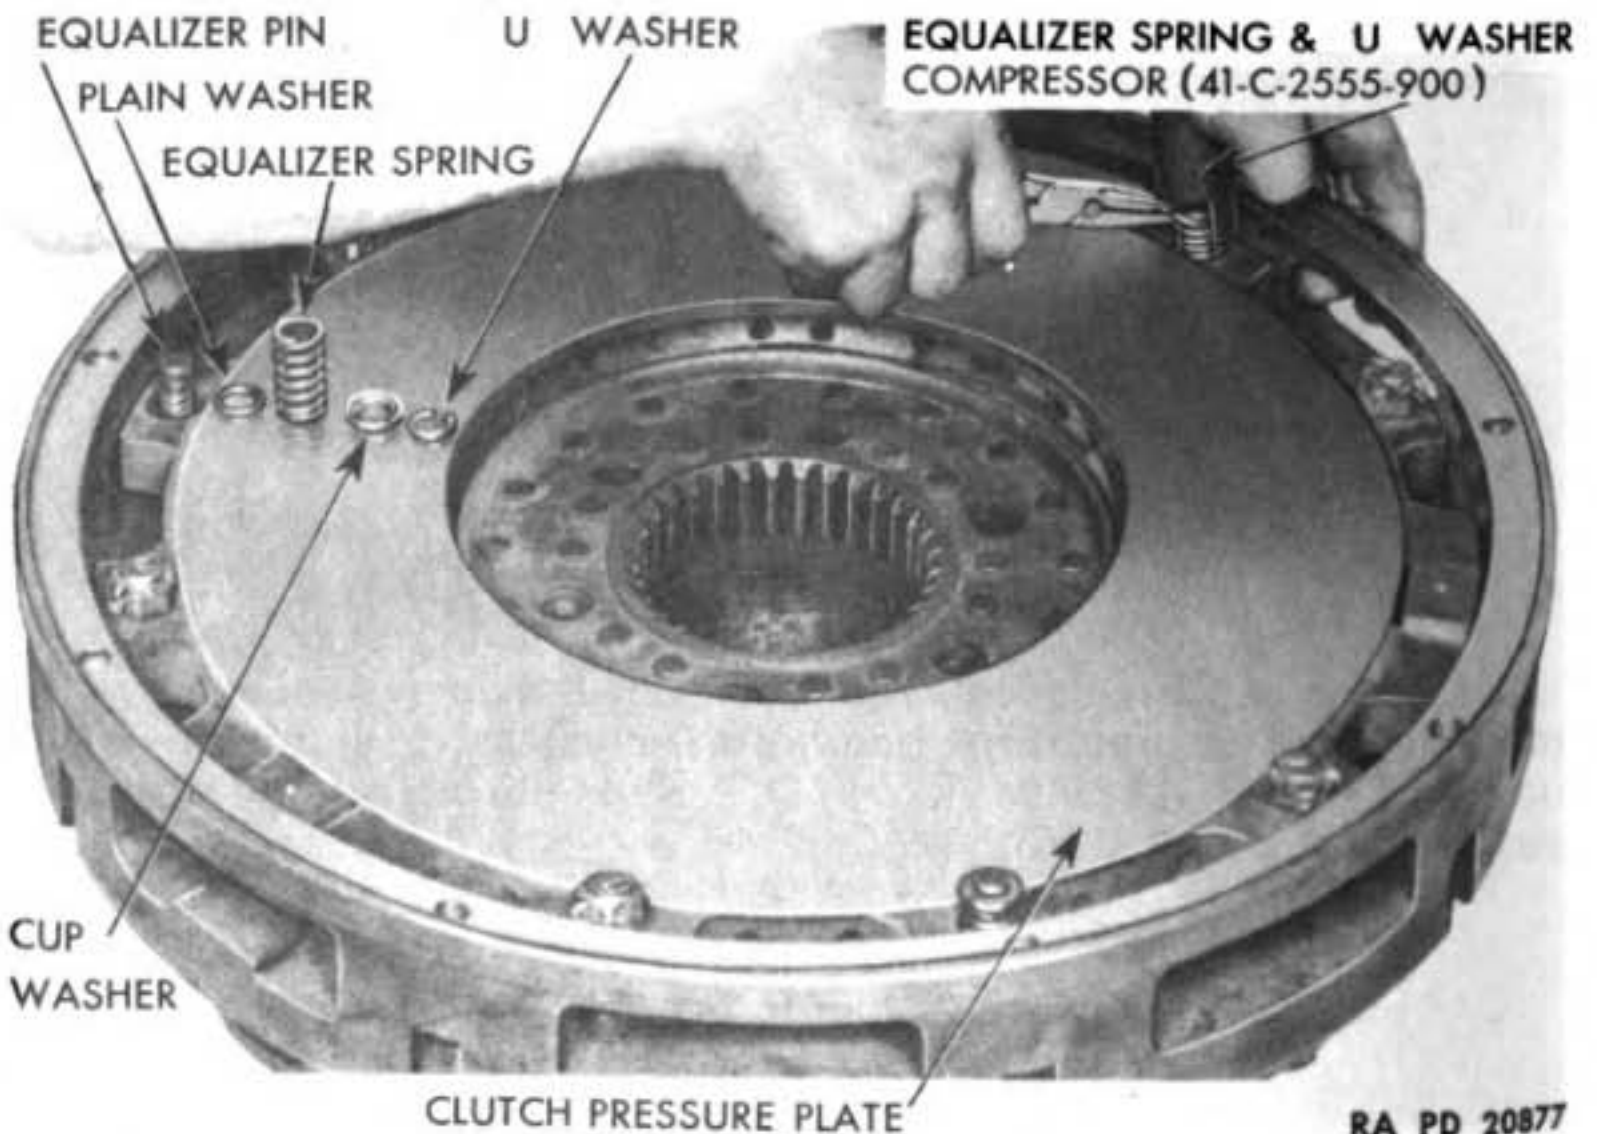
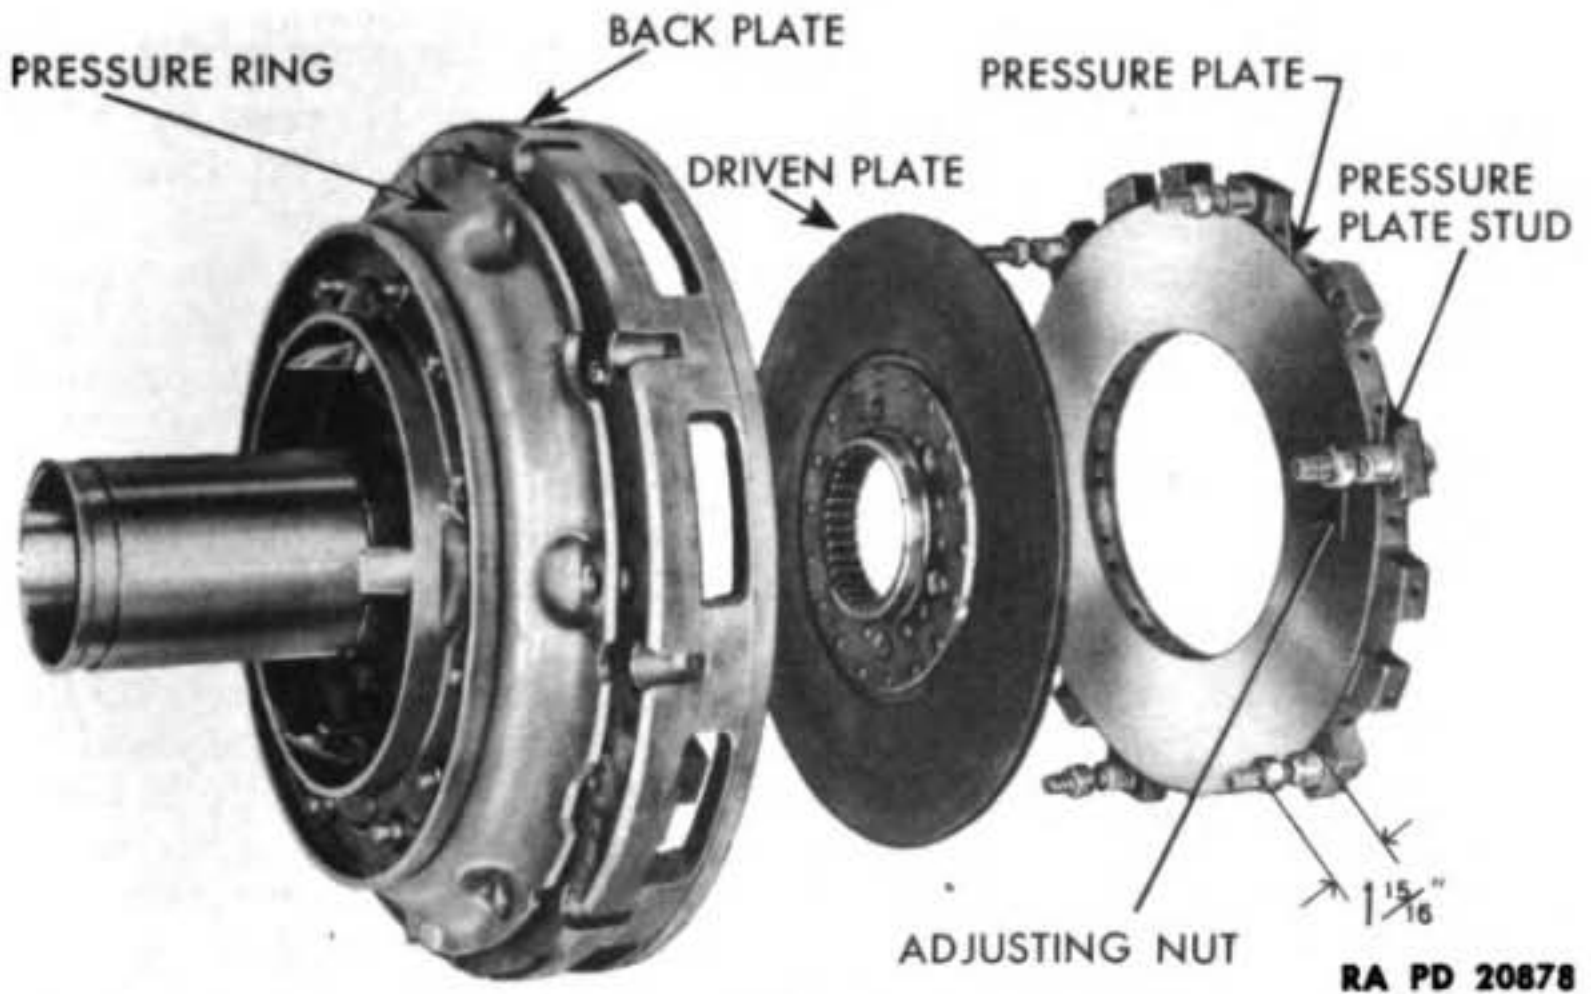

Figure 147 — Removing Clutch Pressure Plate Equalizer Spring, Using Clutch Equalizer Spring and U-Washer Compressor to Remove U-Washer and Spring
Figure 148 — Clutch Pressure Plate Removed from Pressure Ring
c. **Remove Clutch Pressure Plate.** Using pressure plate equalizer spring compressor tool (41-C-2555-900) and long-nose pliers, remove three U-washers from equalizer pin (fig. 147). Remove three equalizer spring cap washers, spring, and plain washer from pin. Working from pressure ring side of clutch (fig. 148), remove six outer ring adjusting nuts from studs. Lift pressure plate with studs and driven plate out of back plate.
e. Install Pressure Plate (fig. 148). Place one clutch driven plate, with oil slinger facing out, in back plate. Before installing pressure plate be sure that faces of six adjusting nuts are set $1\frac{15}{16}$ inches from lug on pressure plate (fig. 148). Install pressure plate in position in back plate. Install six adjusting nuts on pressure plate studs finger-tight.
f. Install Pressure Plate Equalizer Springs (fig. 147). Install three plain washers, springs, and cup washers on equalizer pins. With clutch equalizer spring and U-washer compressor (41-C-2555-900), compress equalizer springs, and install U-washers in groove on equalizer pins.